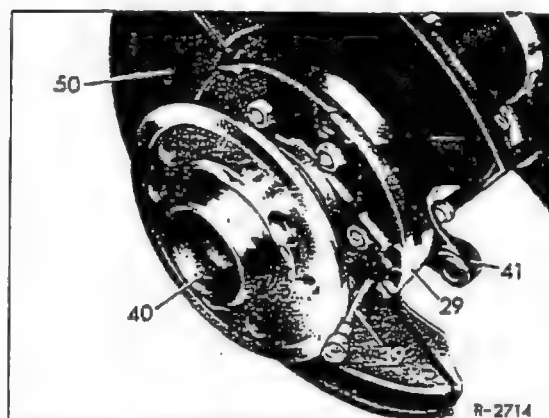

Fig. 42-28/8
14. Disassemble the adjustment device and coat the thread and the shaft of the toothed adjustment wheel with a permanent lubricant. Then turn the readjustment device back as far as it will go taking care to ensure that the toothed adjustment wheel moves freely on the pressure block (Fig. 42-28/6).